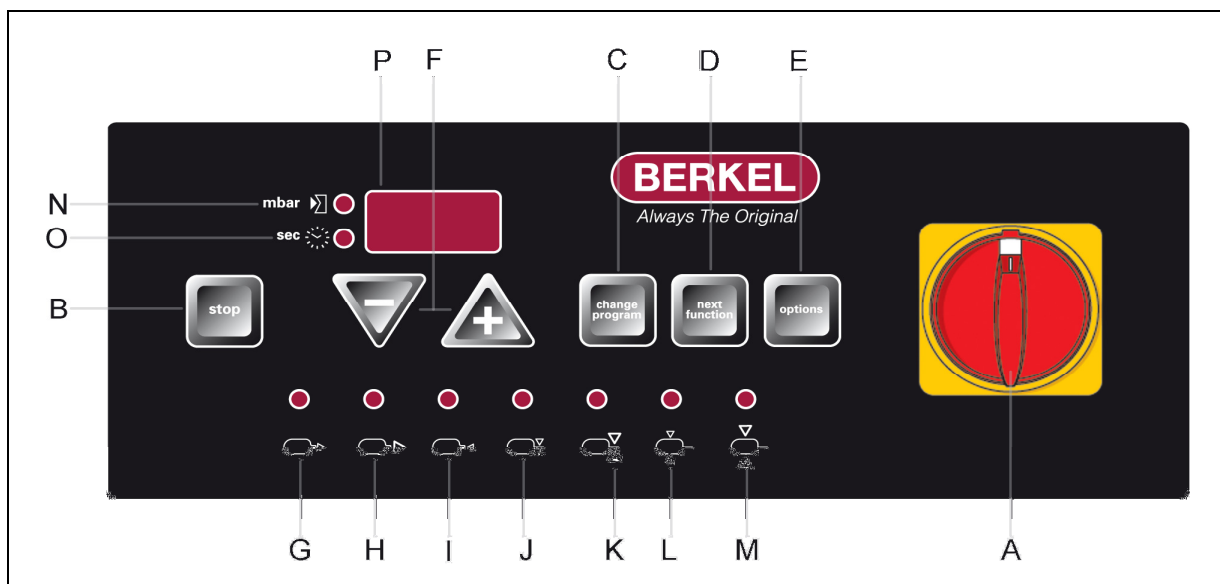

Fig. 5-1: Control panel Pro-range
1. Switches on the machine with the main switch (Fig. 5-1-A). The control starts up.
2. Push the options on/off-key 5 seconds. At the display the first function with its setting appears (Table 4).